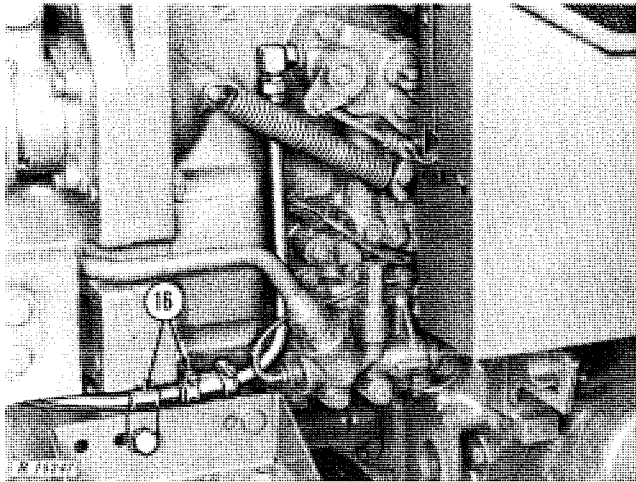

Fig. 7 - Power Front Wheel Drive Drain Pipe
16. Disconnect Power Front Wheel Drive drain pipe (Fig. 7).